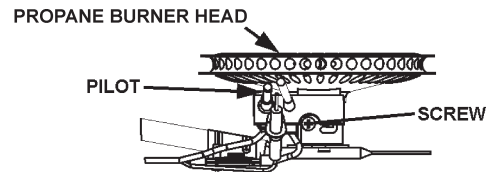

FIGURE 25.
15. Remove the Phillips-head screw holding the pilot bracket to the burner head, see Figure 25.